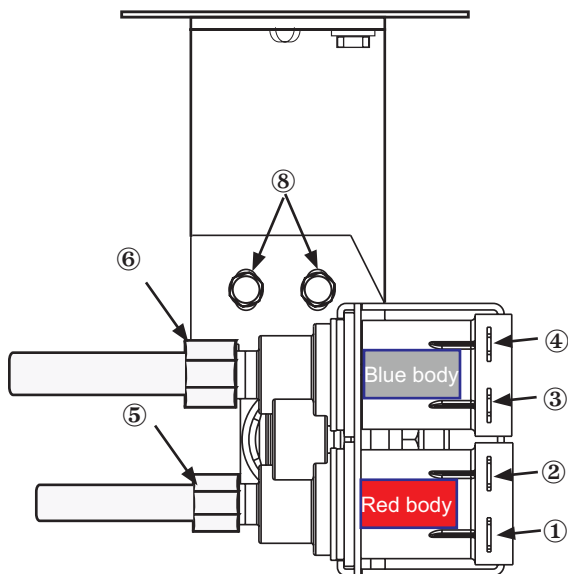
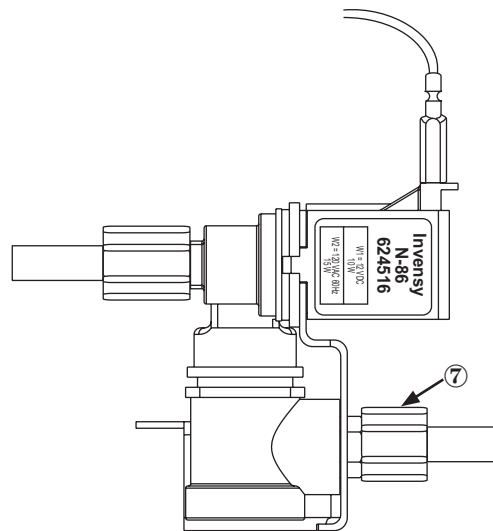

Figure. 10-5. —Water valve connections -Top View.
Figure. 10-6. —Water valve inlet connection -Side View.
To remove the water valve assembly proceed as follows and refer to Figure 10-5 and Figure 10-6.
4. Disconnect the +12 volt DC BLACK ③ wire and the -12 volt DC WHITE ④ wire from the water valve solenoid coil.
6. Disconnect the ice maker water fill line ⑤ at the ice maker water valve.
7. Disconnect the water dispenser fill line ⑥ at the water dispenser valve.
8. Disconnect the RV water supply line ⑦ at the water valve.
10. Reverse steps 9 through 1 and see Figure 10-5 and Figure 10-6 to install the replacement water valve.